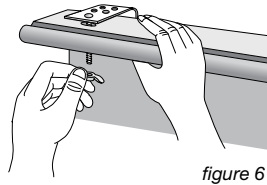
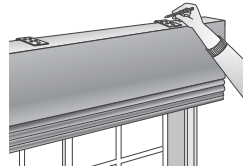

figure 6
figure 7
2. Attach New York brackets (provided) to headrail in each pre-drilled slot (figure 6). Hold the shade in its desired installed location against the wall or window casing. Using a pencil, mark the top of each bracket location (figure 7).
5. With the brackets installed level to one another, remove the wing nuts and hold the shade up into the bracket posts. Reinstall the wing nuts to the brackets and hand-tighten until snug (figure 6).